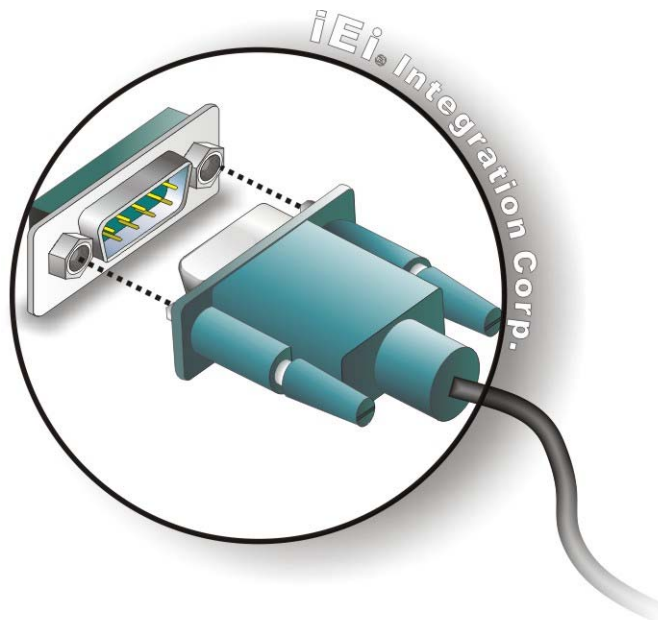

Figure 4-15: Serial Device Connector
Step 2: Insert the **serial connector**. Insert the D-sub 9 connector of a serial device into the D-sub 9 connector on the external peripheral interface. See **Figure 4-15**.